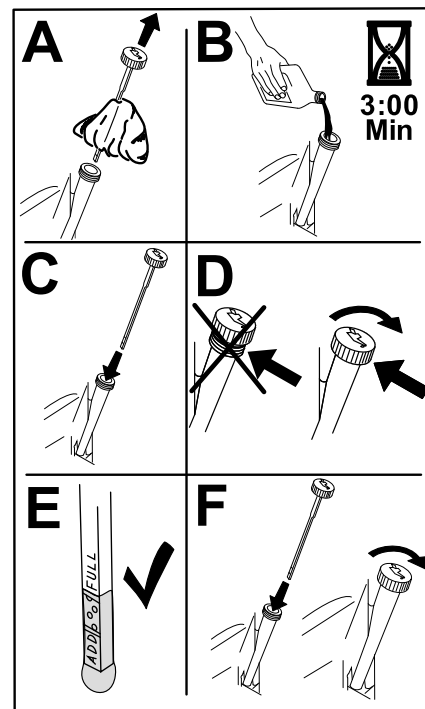

Figure 35
5. Slowly pour approximately 80% of the specified oil into the filler tube and slowly add the additional oil to bring it to the **Full** mark (Figure 35).
3. Fill the crankcase with the proper type of new oil (Figure 35).